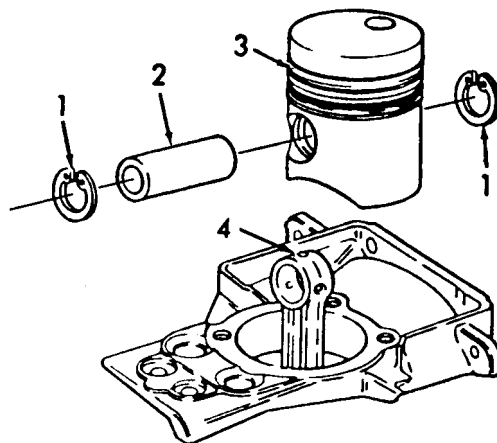

Figure 5-30. Piston Installation.
f. Installation. (Refer to figure 5-30).
- (1) Install one circlip (1) in lip groove of piston (3) gudgeon bore.